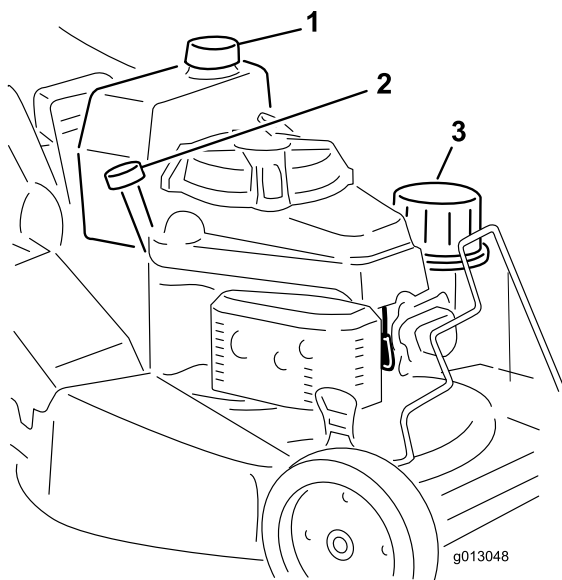

Figure 11
1. Clean around the fuel tank cap (Figure 11).
1. Connect the wire to the spark plug (Figure 11).